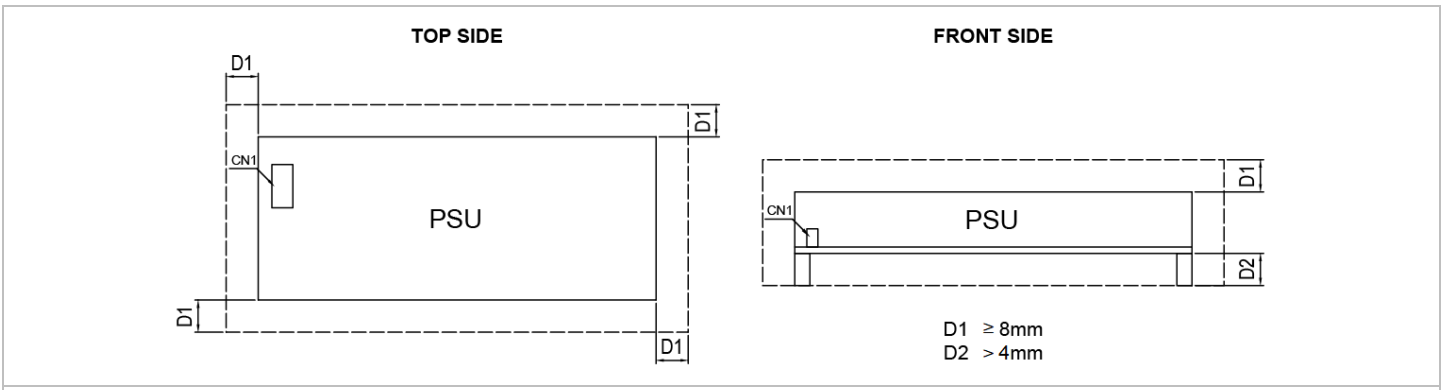

Fig. 3 Assembly Reference
- For safety reason, please ensure the mounted device is kept at  $\geq 8\text{mm}$  safety distance for D1 from other components and equipment; and  $\geq 4\text{mm}$  distance for D2. Please insert an insulation sheet between the system and product, if the safety distance is  $< 8\text{mm}$  for D2 (Refer to Fig. 3)